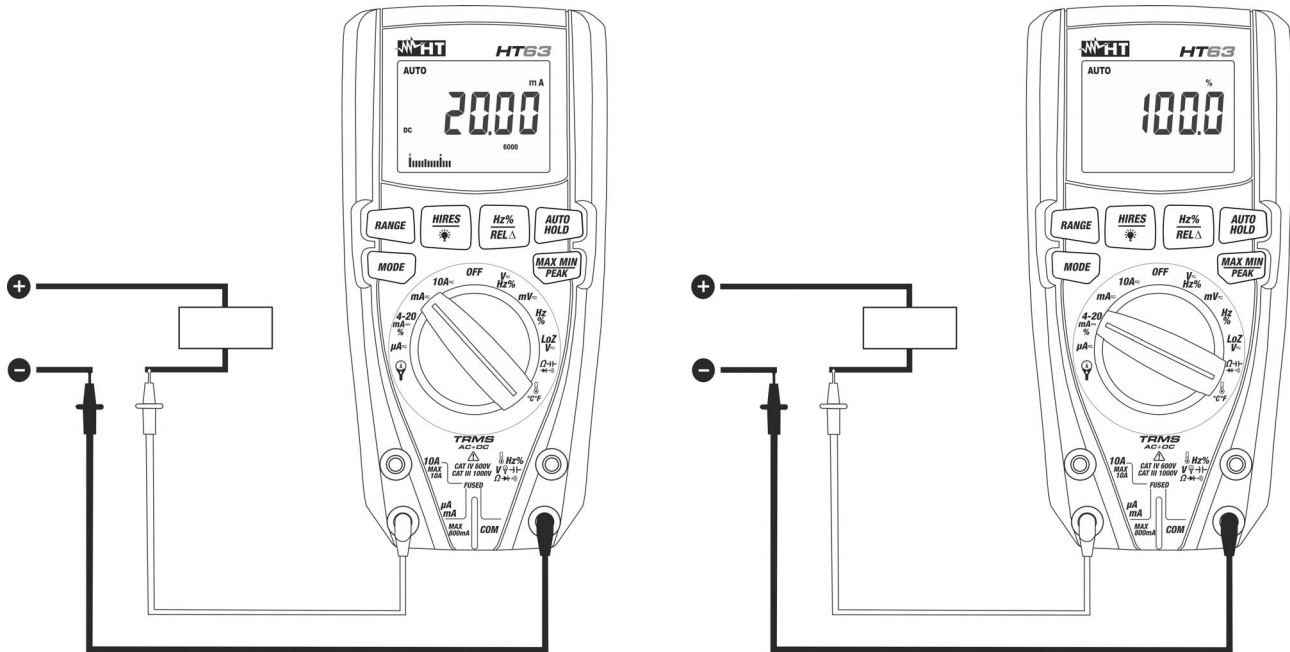

Fig. 10: Use of the instrument for DC current measurement and 4-20mA% reading.
4. Connect the red lead and the black lead in series to the circuit whose current you want to measure, respecting polarity and current direction (see Fig. 10).
6. The value of DC current (see Fig. 10 – left side) appears on the display.
7. The value of reading 4-20mA% (0mA = -25%, 4mA = 0%, 20mA = 100% and 24mA = 125%) (see Fig. 10 – right side) appears on the display. The bargraph is not active in this function
9. When symbol "-" appears on the instrument's display, it means that current has the opposite direction with respect to the connection in Fig. 10.